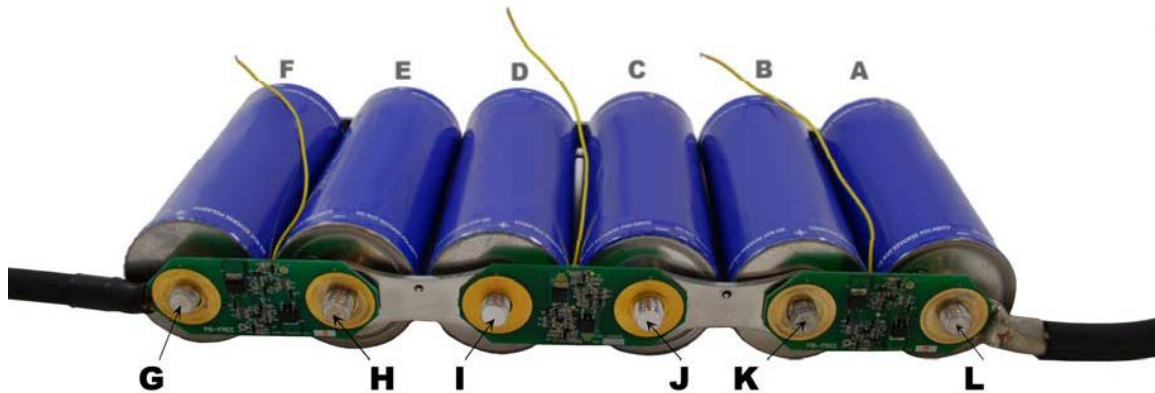

Figure 8
- 3.2.7 Place a voltage management board over each pair of threaded terminals as shown in Figure 8, with the printed circuit board components facing away from the capacitor. Make sure that the buss bar and power cable connections are **below** the voltage management board.